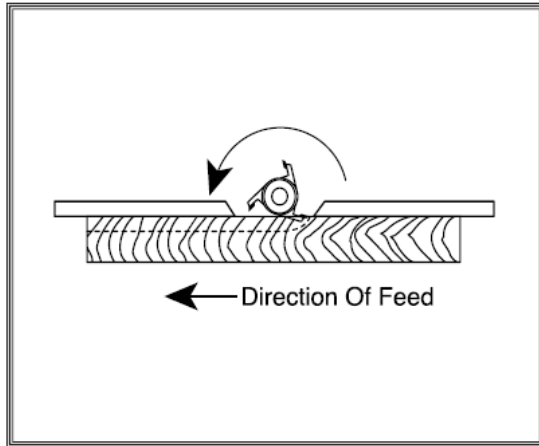

Figure28
4. Adjust the outfeed fence so that it comes into alignment with the infeed fence as shown in **Figure 28**.